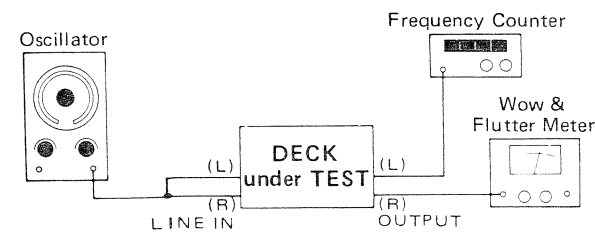

Fig. 5-8
1. Connect a frequency counter to the deck as shown in Fig. 5-8.
1. Connect a wow-and-flutter meter to the deck as shown in Fig. 5-8.